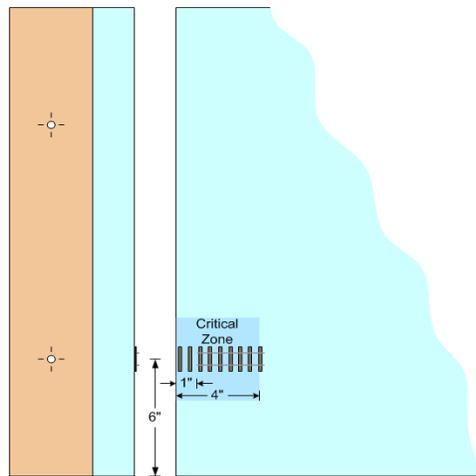

Figure 3
- Straight, level and perpendicular to the interface in the 4 inches closest to the interface (critical zone, see figure 3).
- With the mainline track closest to you (relative to the interfaces, see figure 3), the right-hand Molex will have female pins and the left hand Molex will have male pins.